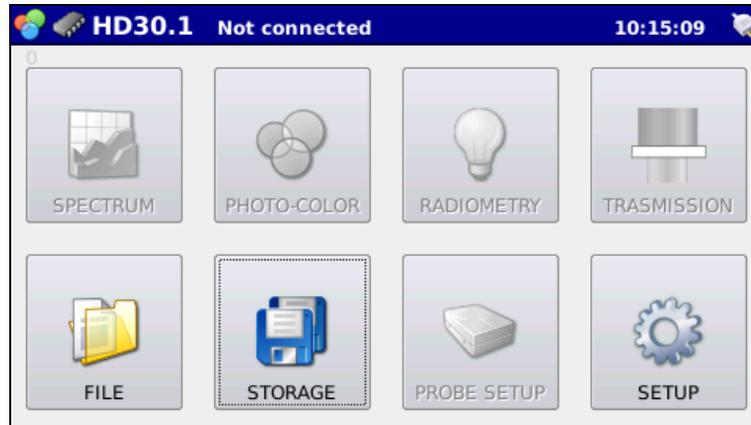
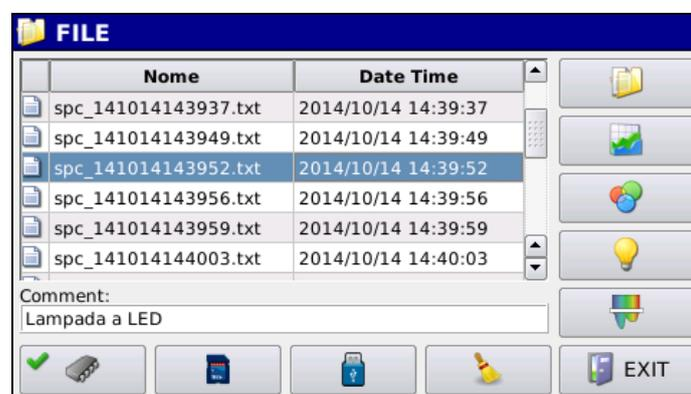
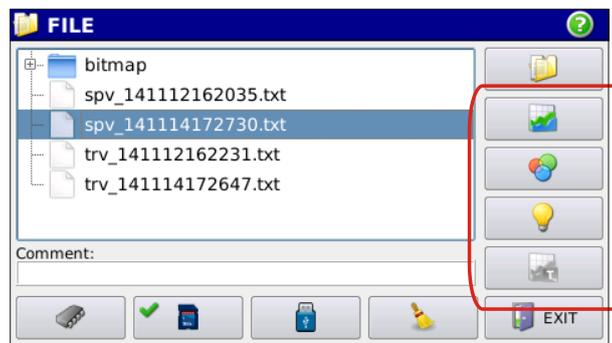

Fig. 4.1: STORAGE and FILE buttons allow measurements to be monitored and recalled.
Fig. 4.11: display of the measurements stored in one of the available memories (internal memory, μ SDcard, USB device).
Fig. 4.12: Data contained into selected file can be displayed by using the highlighted keys.
the main screen (fig. 4.1)
4.4 Press  to return to the main screen (Fig. 4.1).
4.5 Press  in the main screen to display stored measurements (fig. 4.1). Pressing the button will open the fig. 4.11 window.
4.5.1 Select the desired file. The selected file will appear on BLUE background (fig. 4.11); at this stage, the file can be displayed using the buttons on the right of the screen (fig. 4.12).
The arrows highlighted in figure 4.14 allow next measurement to be displayed directly with no need to go back to the FILE menu (fig. 4.11).
Press **EXIT** to return to the FILE menu (Fig.4.11).
Press  to return to the file handling page (fig. 4.11)